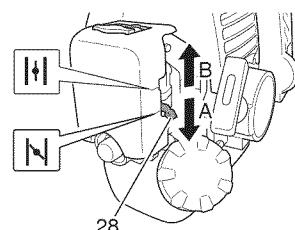

Fig. 17
(A). (Fig. 17)
- (5) When you hear the engine want to start, return choke lever to RUN position (open) (B). (Fig. 17)